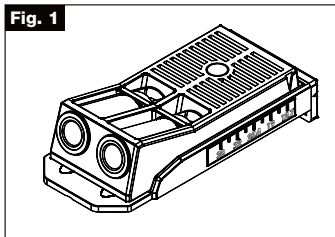

Fig. 2
- Measuring the thickness of the workpiece - (Fig. 2)